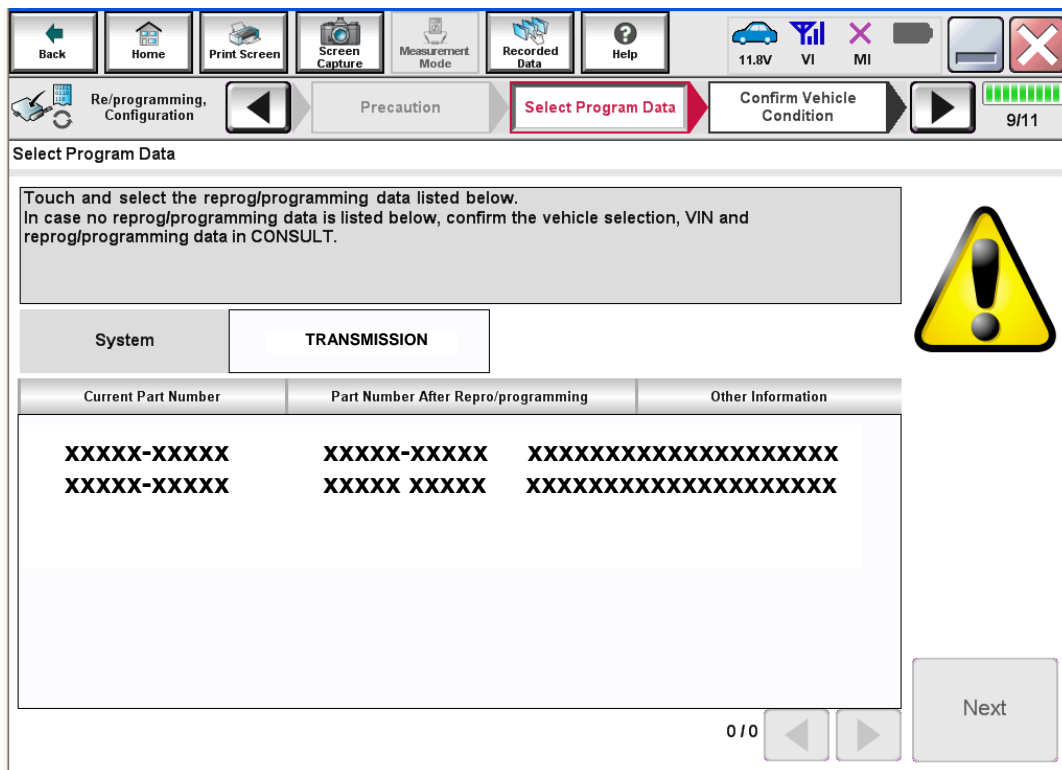

Figure 3A
- If more than one new P/N is available, the screen in Figure 3A displays.